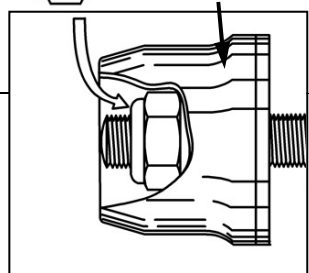

FIGURE 2
3. Use an 8mm wrench to install the Lock Nut, turning until it is next to, but not tight against, the Adjusting Nut (see Figure 2).